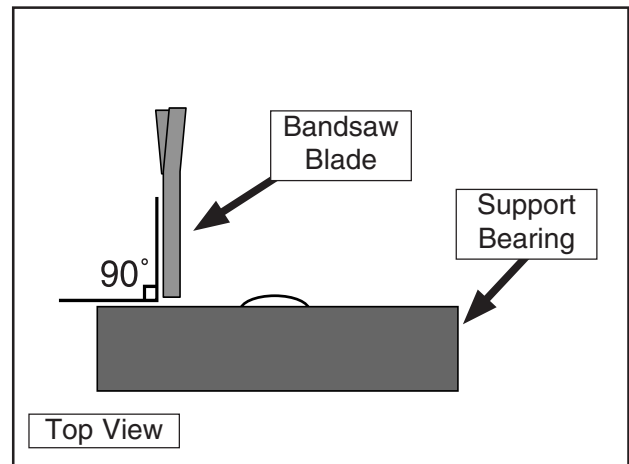

Figure 41. Blade should be perpendicular (90°) to the face of the support bearing.
4. Loosen the guide block assembly cap screw and rotate the blade guide assembly side-to-side, until the blade is perpendicular with the face of the support bearing as illustrated in **Figure 41**.
4. Check to make sure the guide block assembly is perpendicular with the face of the support bearing as illustrated in **Figure 41**.